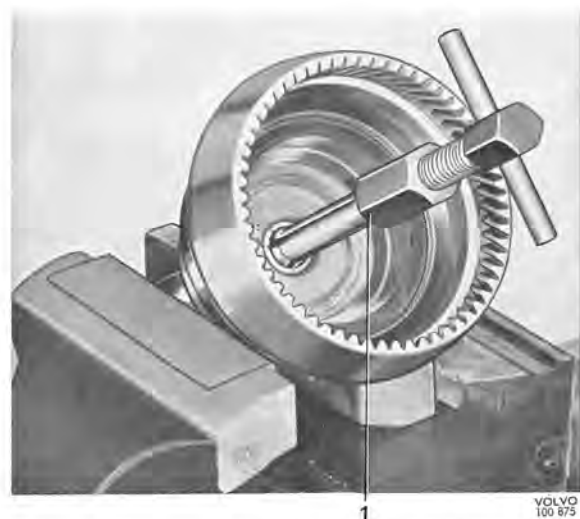

Fig. 4-50. Removing bush, output shaft
4. Remove the circlip and the oil thrower, which hold the uni-directional clutch on the output shaft. Lift out the uni-directional clutch components. Remove the thrust washer. If necessary pull the bush on the output shaft out with puller 2423, see Fig. 4-50.